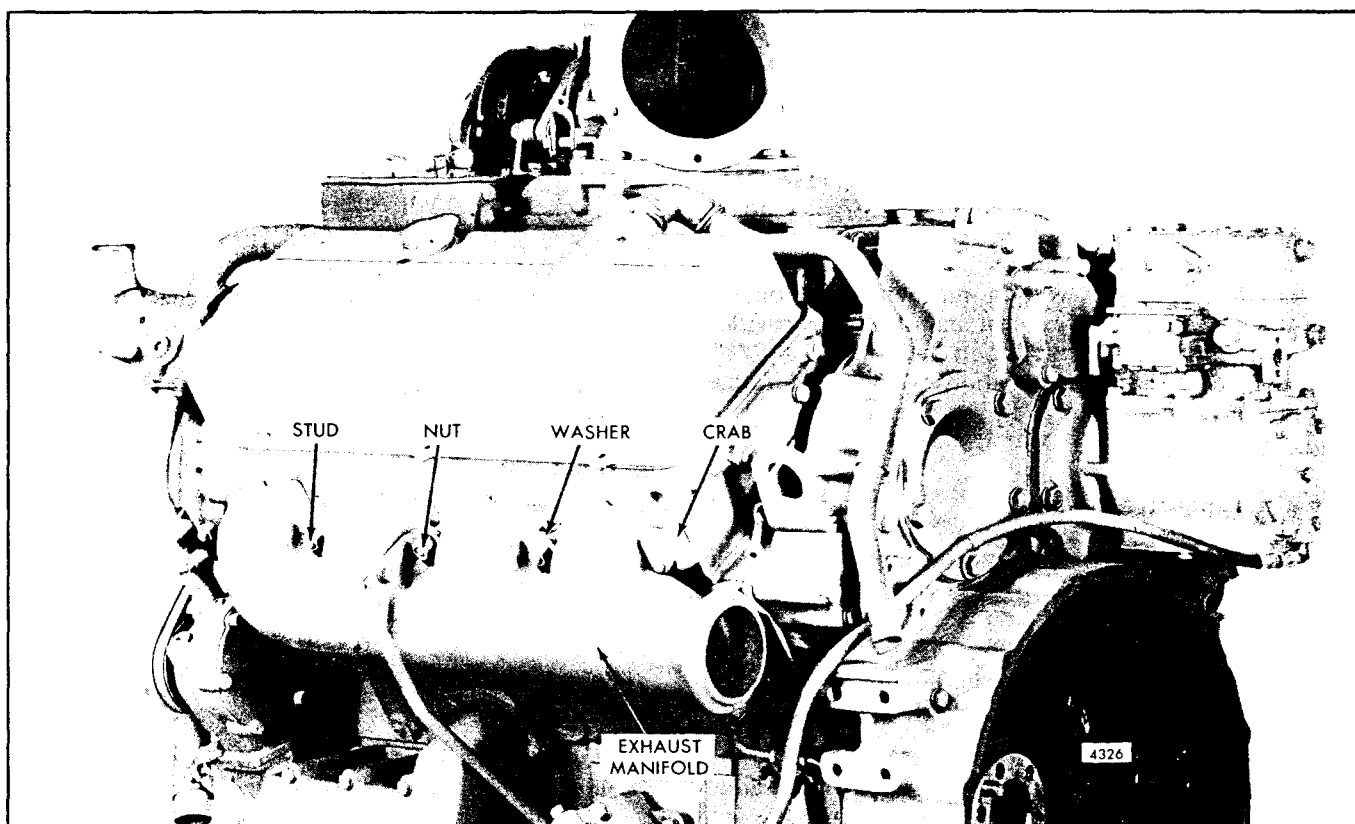

Fig. 2 - Exhaust Manifold with Marmon Flange
3. Install the washers and nuts on the studs. If beveled (dished) washers are used, position them so that the crown side faces the nut. On some engines, crabs are used in place of washers at the end positions (Fig. 2).